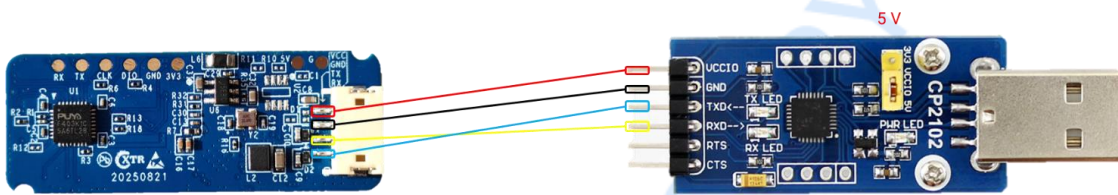

Figure 4-1 Example of connecting the Xen202TE hardware and USB serial port tool
- a) Connect the XenP202T series to an FPC adapter board using an FPC flexible flat cable, and then connect the FPC adapter board to a serial-to-USB connection board. The connection method is shown in Figure 4-1.